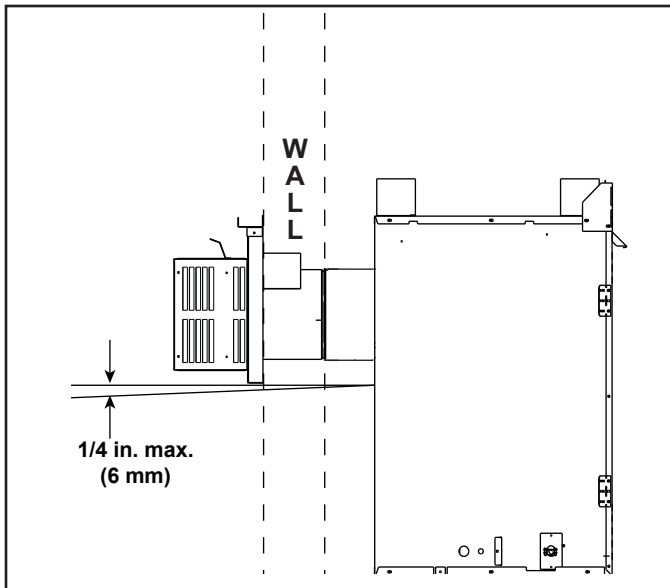

Figure 4.6
- Horizontal termination cap should have a 1/4 inch downward slant to allow any moisture in cap to be released. See Figure 4.6.